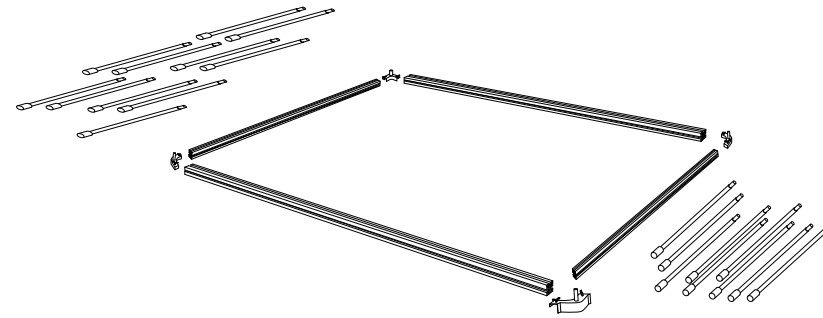

Fig. 1
**Step 1:** Find an appropriate indoor space and place the 4, 1 1/2" x 80" orange extrusions (Item A) in the desired location. Fig. 1 (right)